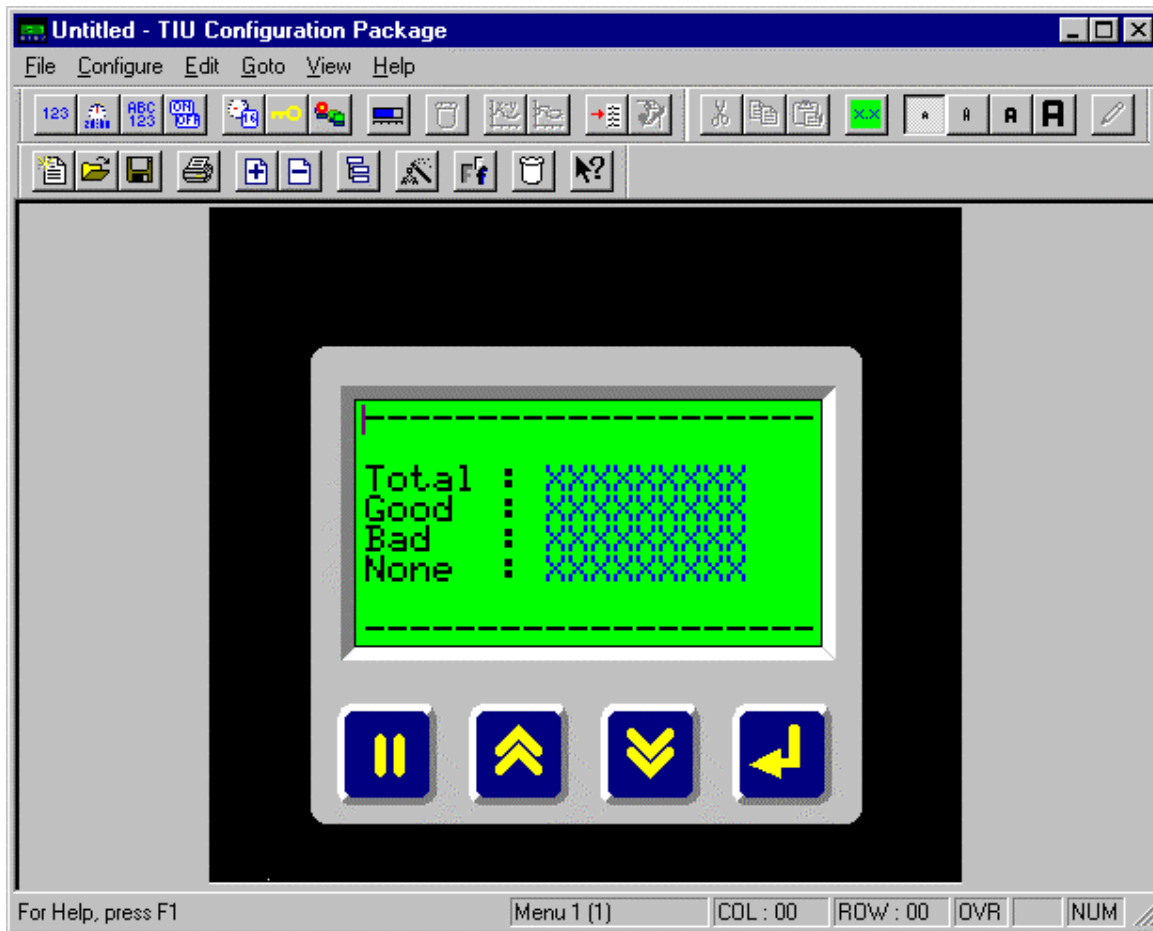

Figure 2.3 – Start-up Menu
1. Click on the Wizards Icon  in the tool bar and choose **Comms Stats**. The display should then look like figure 2.3.